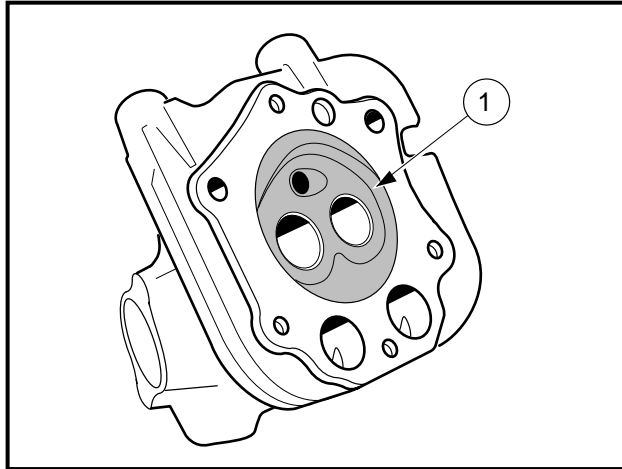

Figure 13-18 Combustion Chamber
- Smooth out any damaged spots in the combustion chamber (1) using a small grinder. Sharp edges in the combustion chamber may cause pre-ignition. Do not remove any more material than is necessary or change the shape of the combustion chamber (**Figure 13-18, Page 13-13**).